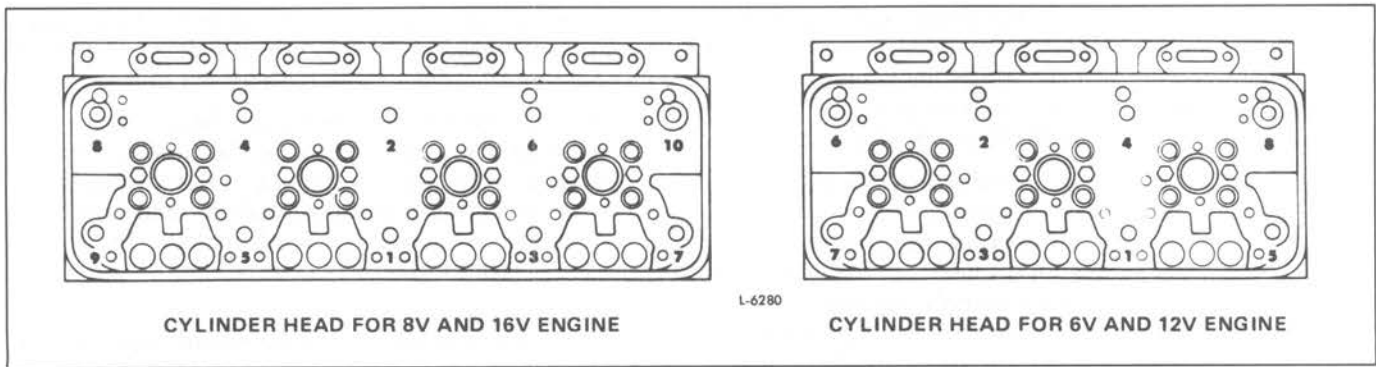

Fig. 13 – Cylinder Head Bolt Tightening Sequence
- a. *Tighten* the 11/16"–11 cylinder head bolts to 100 lb-ft (136 N•m) torque in sequence (Fig. 13). Apply a steady pressure for two or three seconds at the prescribed torque to allow the bolts to turn while the gaskets yield to their designed thickness.